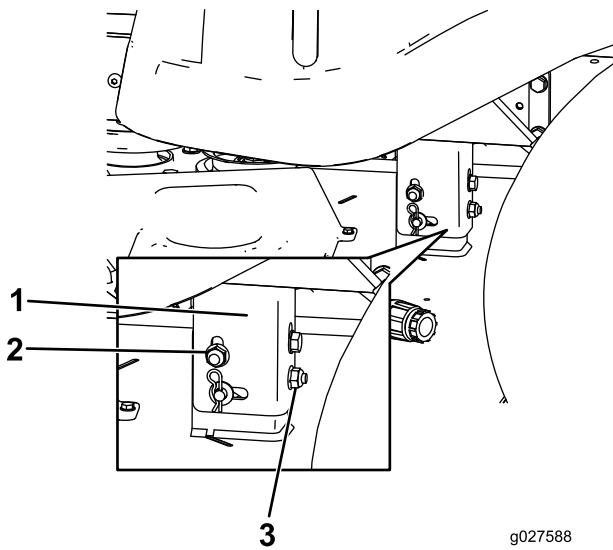

Figure 66
8. Raise or lower the left side of the mower deck by rotating the rear nut (Figure 66).
Note: Rotate the rear nut clockwise to raise the mower deck; rotate the rear nut counter-clockwise to lower the mower deck (Figure 66).